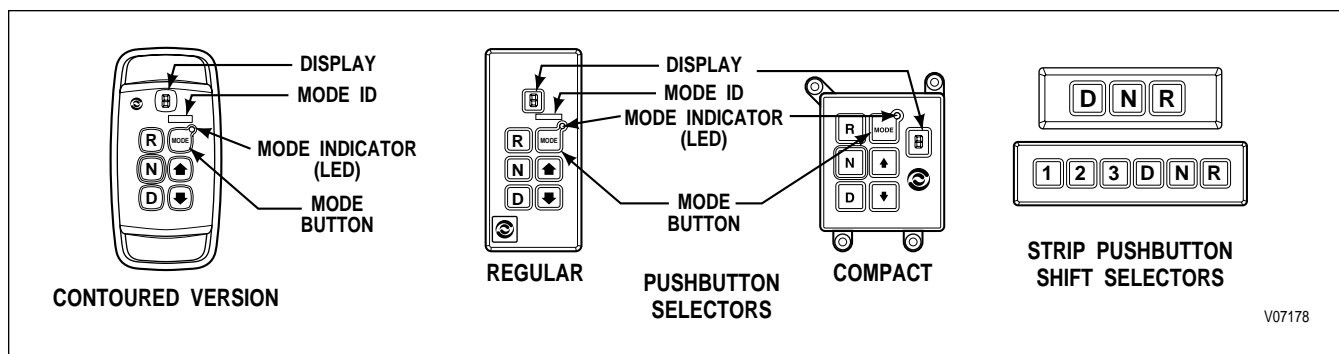

Figure 1-4. Pushbutton Shift Selectors
A. Pushbutton Shift Selector (Figure 1-4)
There are two full-function pushbutton shift selectors and a strip pushbutton shift selector. Strip pushbutton shift selectors are used by European OEMs. A full-function shift selector has a **MODE** button and diagnostic display capability through the single digit LED display. The strip pushbutton shift selector does not have a **MODE** button, diagnostic capability, or adjustable illumination. The full-function pushbutton shift selector has six (6) pushbuttons which are **R** (Reverse), **N** (Neutral), **D** (Drive), ↓ (Down), ↑ (Up), and **MODE**. Manual forward range downshifts and upshifts are made by pressing the ↓ (Down) or ↑ (Up) arrow buttons after selecting **D** (Drive). The **N** (Neutral) button has a raised lip to aid in finding it by touch. The **MODE** button is pressed to select a secondary or special operating condition, such as **ECONOMY** shift schedule. Diagnostic information is obtained by pressing the ↑ (Up) and ↓ (Down) arrow buttons at the same time. The strip pushbutton shift selector has either three or six range selection positions as shown in Figure 1-4. When a strip pushbutton shift selector is used, diagnostic information must be obtained by using the ATDT™, Pro-Link® 9000, or a customer-furnished remote display.